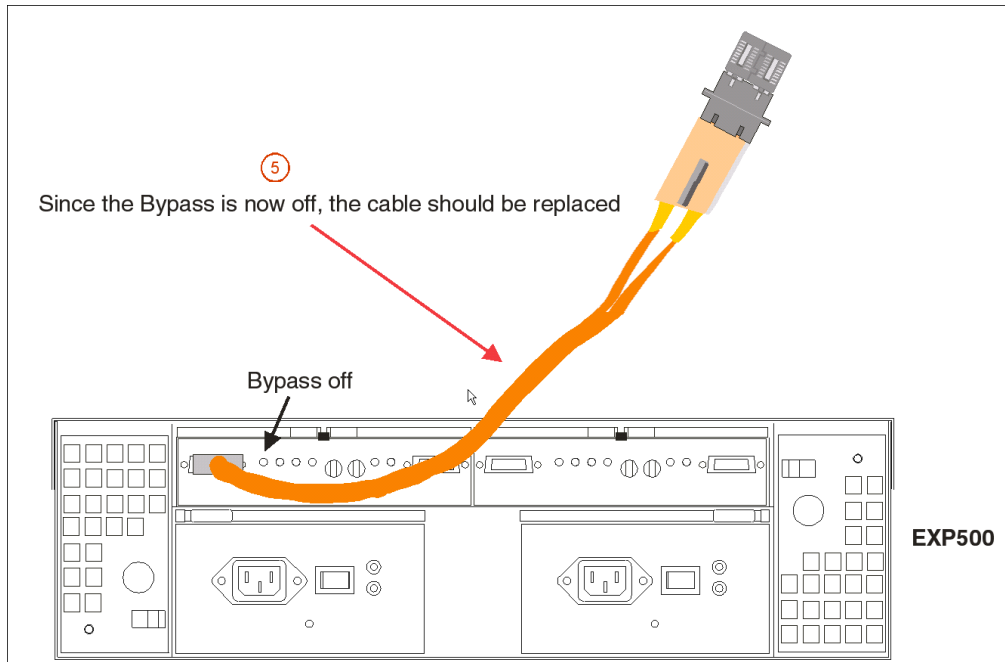

Figure 88. Insert wrap plug into element
5. As was shown in step 4, insert the wrap plug into the element from which the cable was removed in step 3. See Figure 88 on page 200.